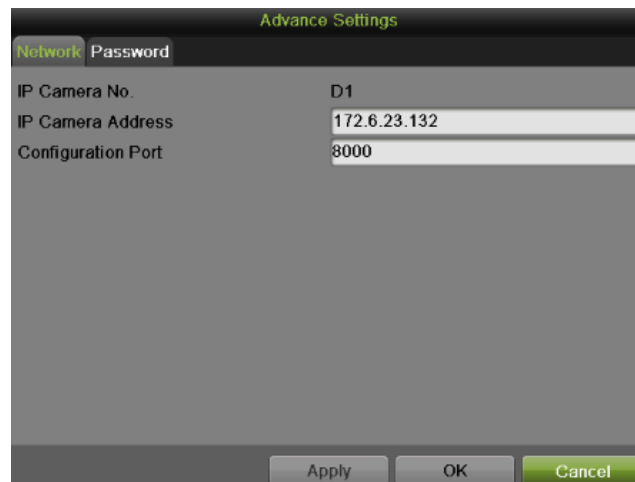

Figure 115 Advance Settings Menu
4. For editing more parameters, click the Advance Set button to pop up an Advance Settings window, as shown in Figure 115.